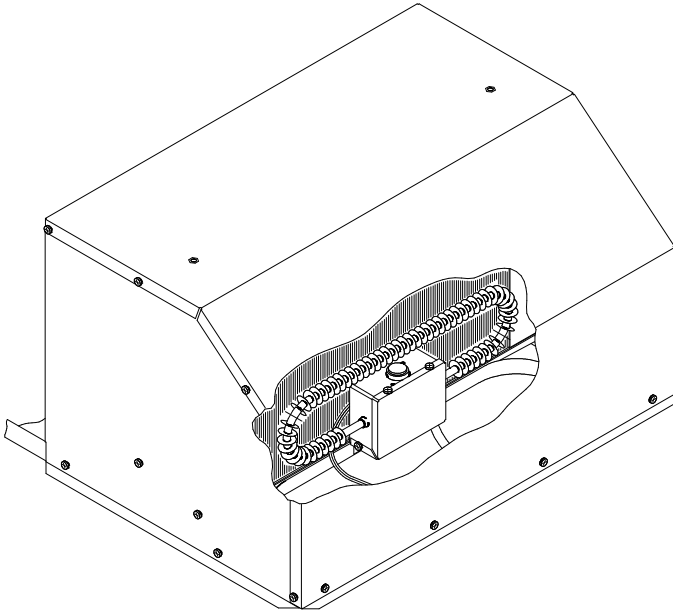
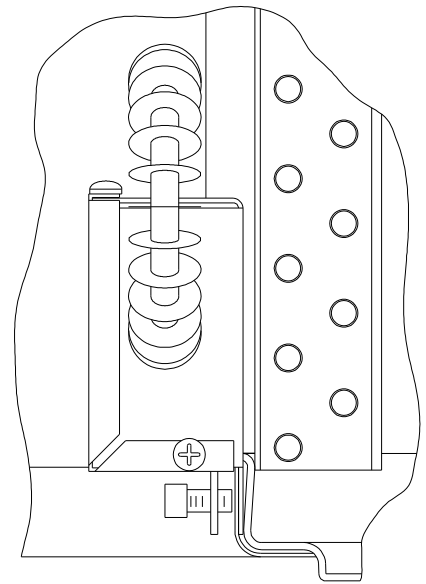

FIGURE 5
FIGURE 6
- C. If installing the optional (9470*4551) Electric Heating Element, position the heater assembly in the air conditioner return air opening as shown in Figure 5. The heater bracket must be installed over the metal basepan extrusion and positioned between the basepan and the plastic drain pan (See Figure 6). Tighten set screw to secure the assembly so as to prevent movement.